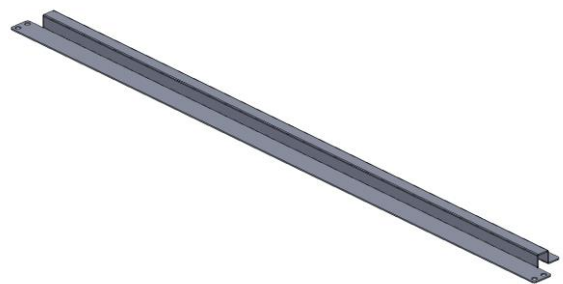

Figure 3. Exterior Mounting Plate
- Exterior Mounting Plate (See **Figure 3**)